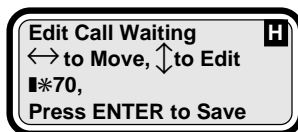

Figure 1.12: Edit Call Waiting
- Enter your Call Waiting Defeat Code if it is different than the pre-set *70: Press the ← or → key to move the cursor left or right, press the ↑ or ↓ key or key in the number to change the setting. Press ENTER to save changes (See Fig. 1.12).